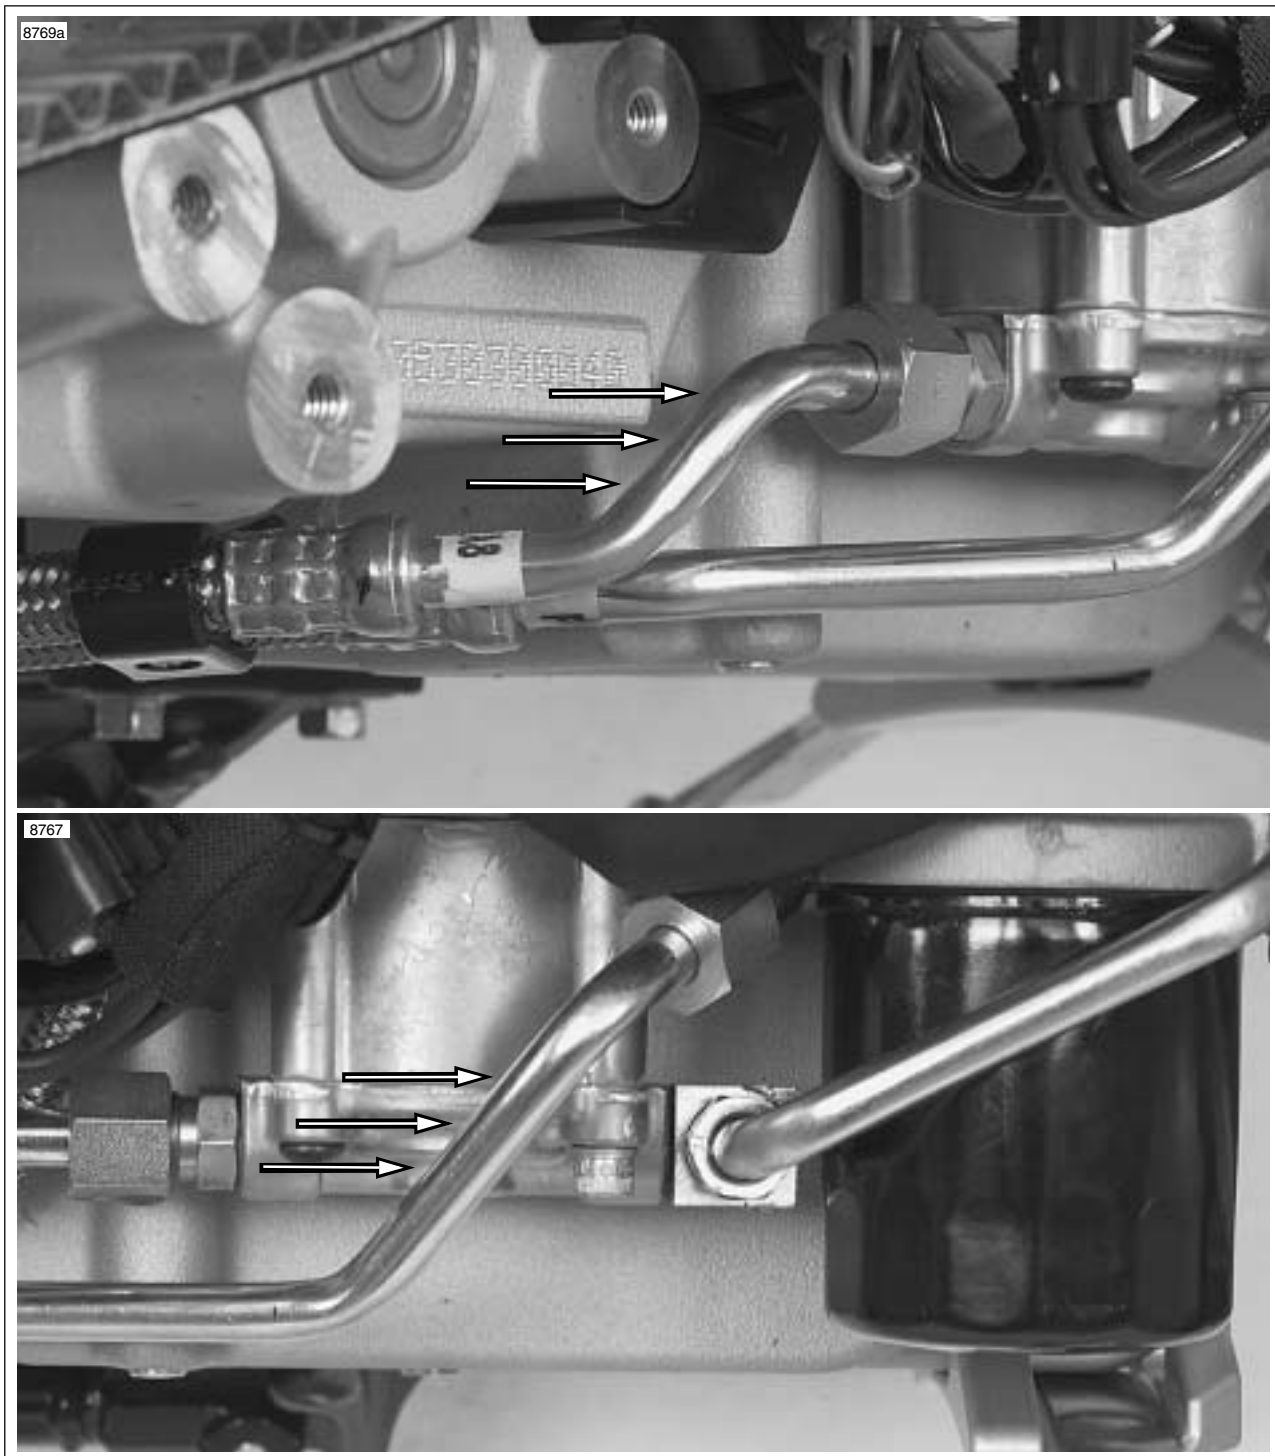

Figure 3-50. Approximate Seven O'Clock Orientation of Oil Feed Line and Oil Return Line at the Oil Pump
25. See Figure 3-50. The feed oil line at the rear of the of the oil pump should be torqued to 18-20 ft-lbs (24.4-27.1 Nm). When the oil line has been properly torqued, the orientation of the line should be approximately 7 o'clock.